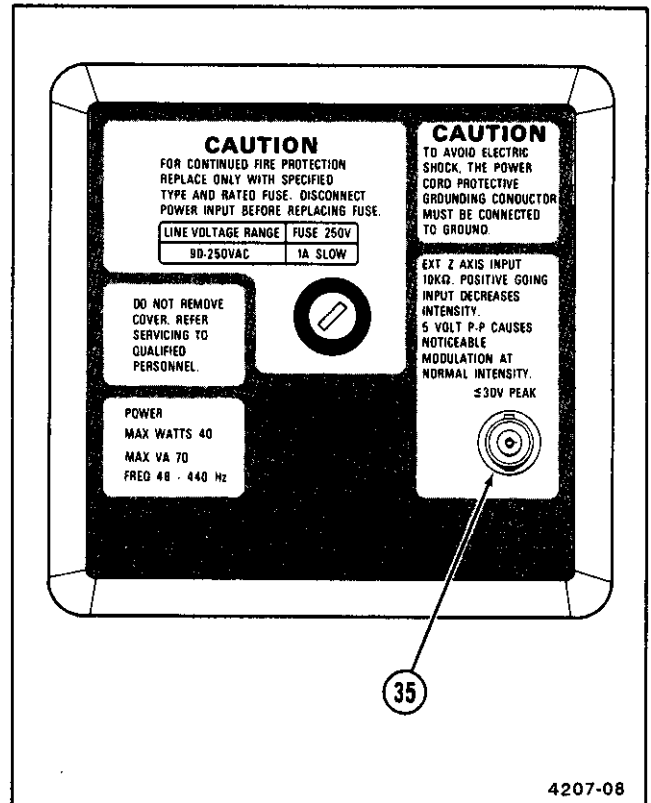

Figure 2-7. Rear-panel connector.
Refer to Figure 2-7 for location of item 35.
- ③① **A EXT COUPLING Switch**—Determines the method used to couple external signals to the A Trigger circuit from the EXT INPUT connector.
- ③② **EXT INPUT Connector**—Provides a means of introducing external signals into the A Trigger circuit through the A EXT COUPLING switch.
- ③③ **B TRIGGER LEVEL Control**—Selects the amplitude point on the trigger signals at which the sweep is triggered. When fully clockwise; (**B RUNS AFTER DLY**), the B Sweep circuit runs immediately following the delay time selected by the A SEC/DIV switch and the B DELAY TIME POSITION control.
- ③④ **VAR HOLDOFF control**—Provides continuous control of holdoff time between sweeps. Increases the holdoff time by at least a factor of 10. This control improves the ability to trigger on aperiodic signals (such as complex digital waveforms).
- ③⑤ **EXT Z-AXIS Connector**—Provides a means of connecting external signals to the Z-axis amplifier to intensity modulate the crt display. Applied signals do not affect display waveshape. Signals with fast rise times and fall times provide the most abrupt intensity change, and a 5 V p-p signal will produce noticeable modulation. The Z-axis signals must be time-related to the display to obtain a stable presentation on the crt.